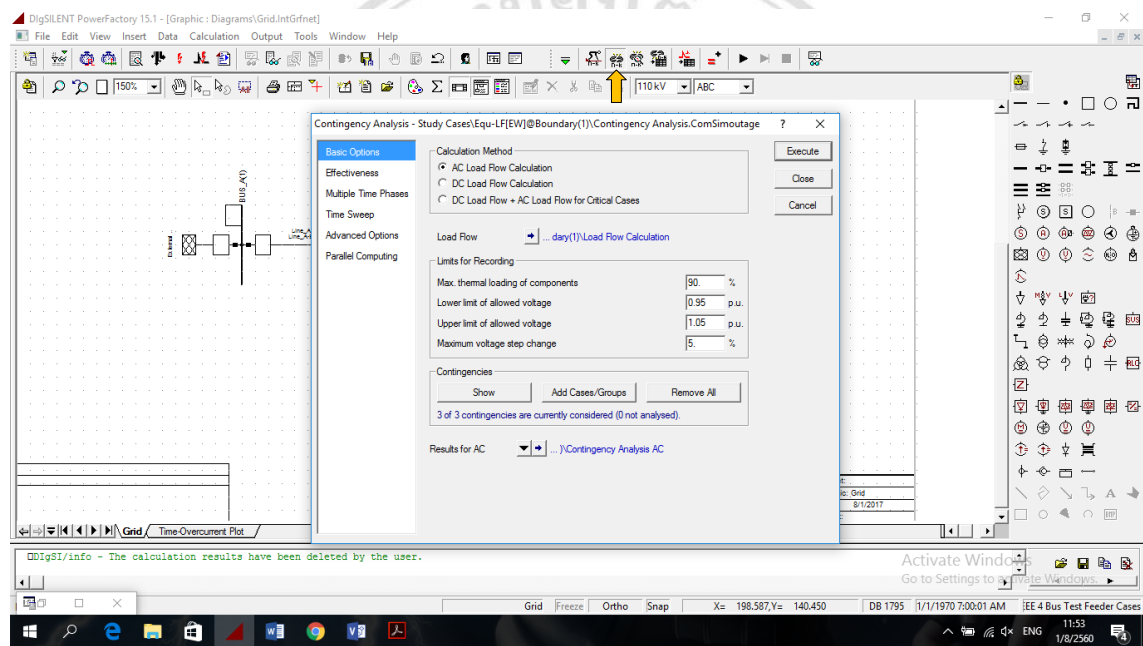
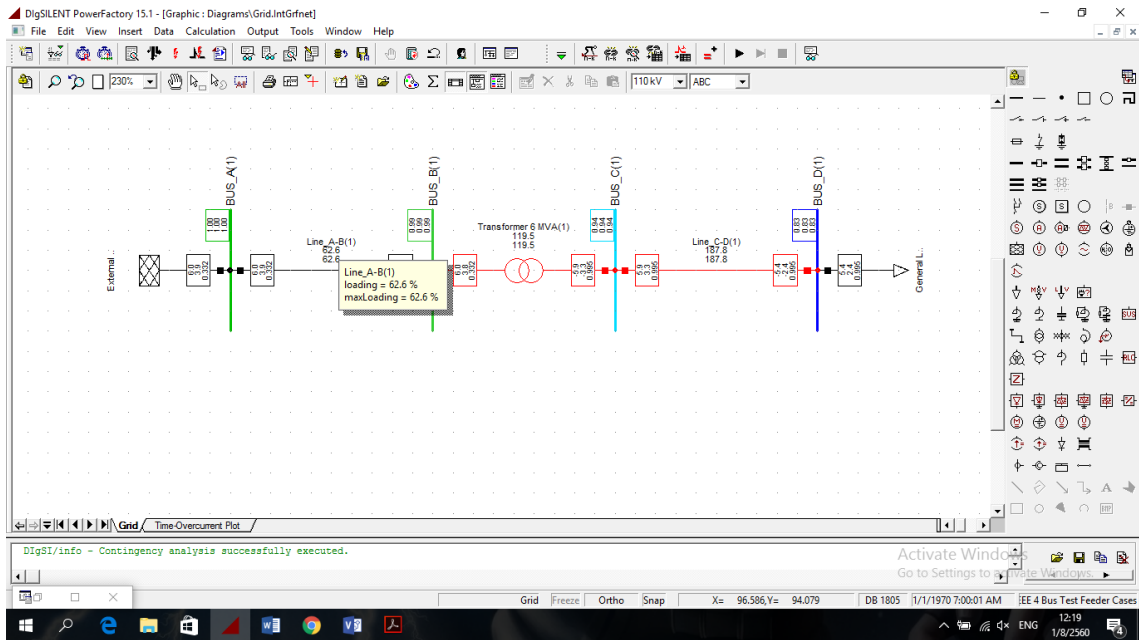

Figure A.62 Contingency analysis
Figure A.63 The program calculate max loading of line
A contingency analysis can be defined as the evaluation of the. The level of security of the power system .Contingency analysis generally involves Analysis of abnormal system condition is a major problem both in planning by calculation method and limits for recording as shown in Figure A.62.
After, click on the symbols  on the Main Tool Bar will appear the window Contingency analysis, as shown in Figure A.62, select the set-up parameters that are used in the calculation. If the system is used calculation method as alternating current (AC) Load Flow, direct current (DC) Load Flow, and DC Load Flow+ AC Load Flow for Critical Cases, select the Calculation Method as AC Load Flow, select the Show button for add cases, and then click the Execute button. To have the program calculate max loading of line as shown in Figure A.63.